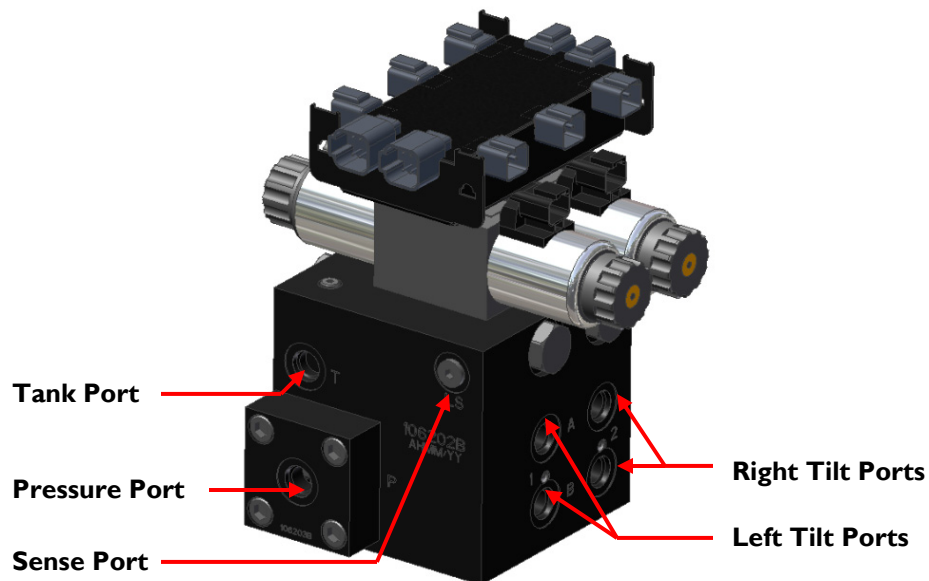

Figure 27: Valve Module - Valve Coil Connections
6. With the valve module securely mounted to the valve block, connect the valve cables (C10), to the valve coils as illustrated in **Figure 27**. Insert the 2-pin plugs (P01) into the unused 2-pin connectors on the valve module.